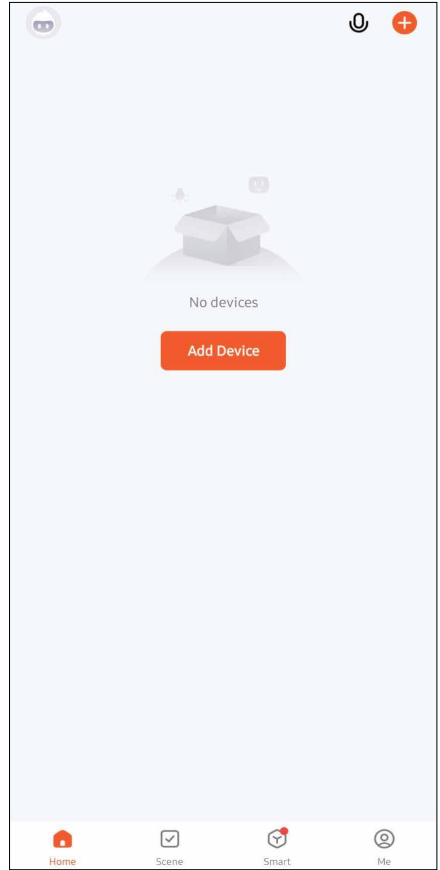

Figure 12
- 2 Once your account is all set up, go to the home screen and select “Add Device”. (Fig.12)